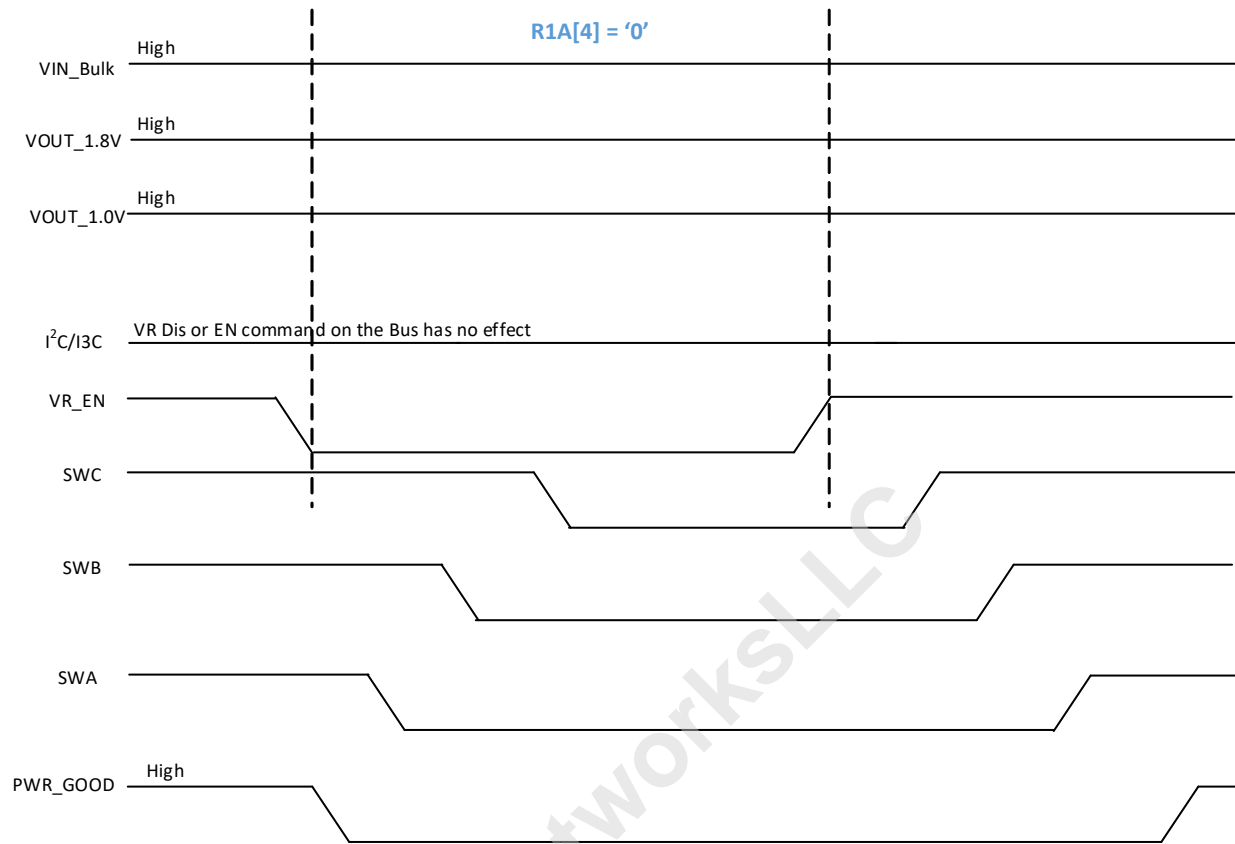

Figure 30 — Power Down with VR_EN Pin; R1A[4]=0; Secure Mode; PWR_GOOD Signal
1. The VR Disable command with VR_EN pin transitions to low. The PMIC asserts PWR_GOOD signal Low. The PMIC executes power off sequence config0 (Table 167, “Register 0x58”) to power off sequence config2 (Table 169, “Register 0x5A”) to preserve the appropriate voltage relationship as configured in the registers. The host can re-enable the PMIC’s output regulators by VR_EN pin transition to High. The PMIC executes power on sequence config 0 to power on sequence config 2 registers and floats PWR_GOOD signal after tPMIC_PWR_GOOD_OUT timing parameter is satisfied. See Figure 30. The PMIC does not require power cycle.